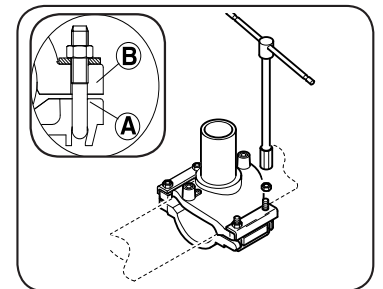

FIG.2
- 4 Fasten the saddle on the pipe using the **FOUR BOLTS RIGID PLASTIC UNDERCLAMP**: use a wrench to tighten the four screw nuts until top part B and bottom part A come into tight contact (see fig.2).